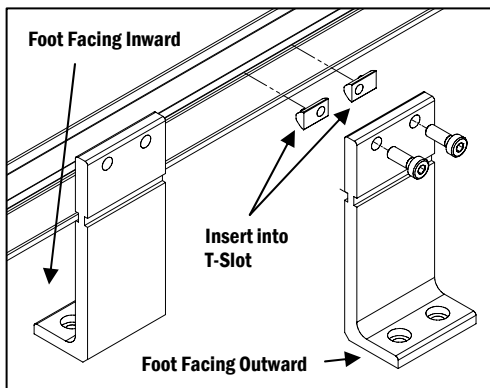

Figure 2
b. Insert the Drop In Nuts into the T-Slot in the conveyor frame. Line up the Raised Mount to the Drop In Nuts, insert the M6 Socket head Cap Screws through the mount and fasten to the frame. The Raised Mount mounting foot can face either inward or outward (Figure 2).